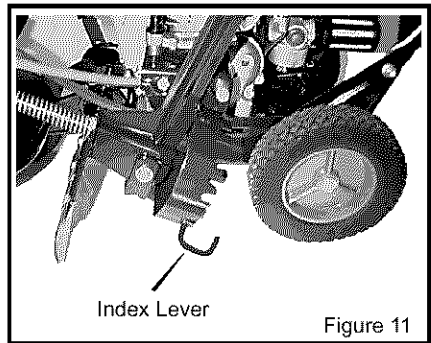

Figure 11
4. Disengage the **index lever** (see Figure 11). Move the **index lever** to the notch marked 90°.